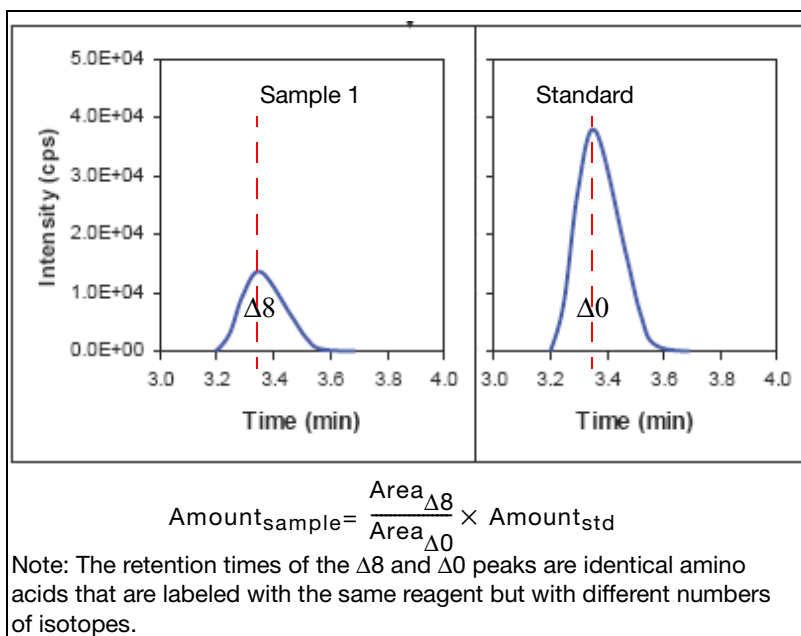

Figure 1 Representation of LC/MS/MS data showing peaks and the calculation for absolute quantitation
With Cliquid® Software for Routine Amino Acid Analysis, the Applied Biosystems/MDS Analytical Technologies LC/MS/MS Systems allow users with minimal mass spectrometry (MS) experience to obtain data for relative and absolute quantitation of amino acids (Figure 1).